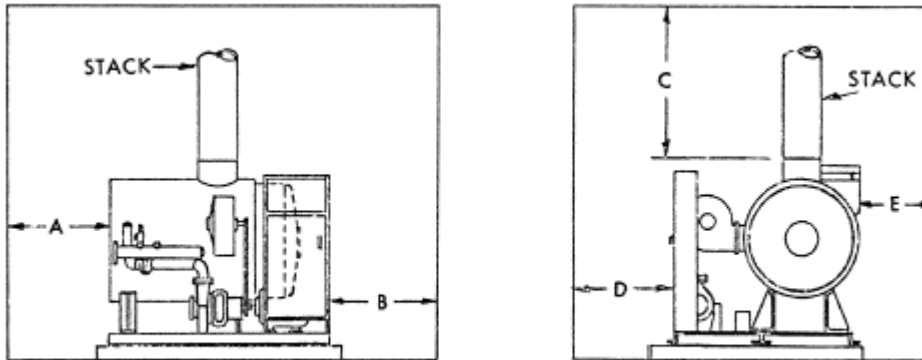

Figure 1, Clearance Dimensions
4.3 Some customers prefer to elevate the heater as additional protection from drainage or to facilitate installation. A concrete pad (see Figure 1) approximately four inches thick is the usual practice in such instances.
5.1 There must be sufficient clearance around and above the heater for convenient servicing, and to meet code minimum requirements. Install the heater using the recommended dimensions given in Table 2 as illustrated in Figure 1. These are the recommended minimum dimensions for a reasonable service area.